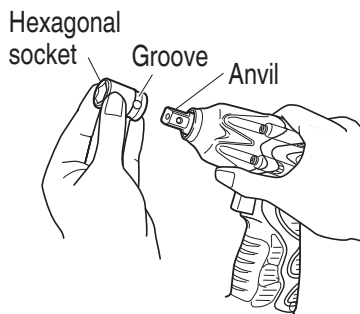

Fig. 6
- Pin, O-ring type **(Fig. 6 and 7)**
- (1) Align the hole in the socket with the hole in the anvil and insert the anvil into the socket.
- (2) Insert the pin into the socket.
- (3) Attach the ring to the groove on the socket.